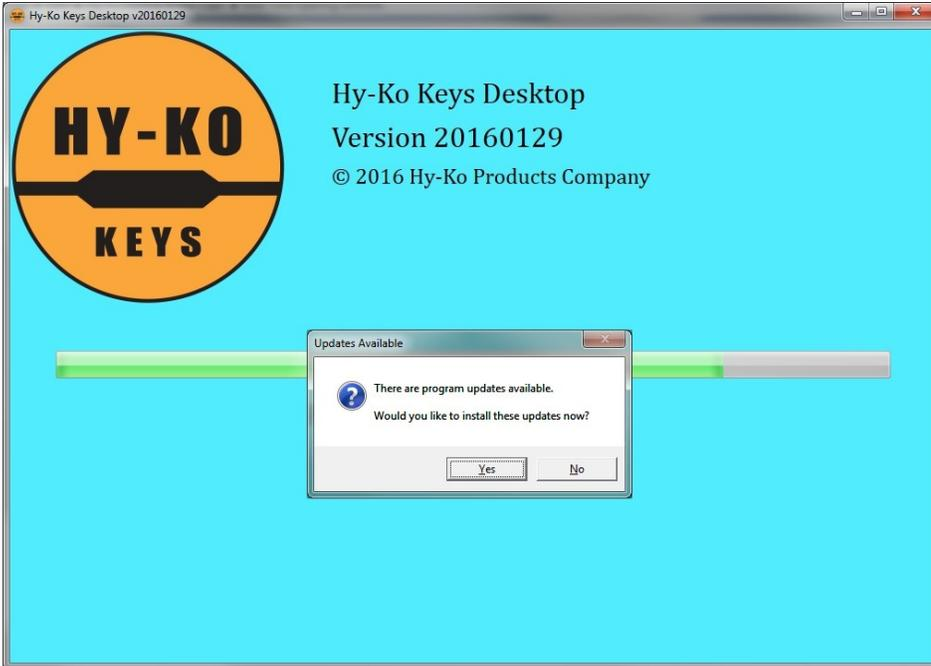

fig. 1
- When opening the software for the first time you may be prompted that there are updates available. Click 'Yes' to download these updates (see fig. 1).